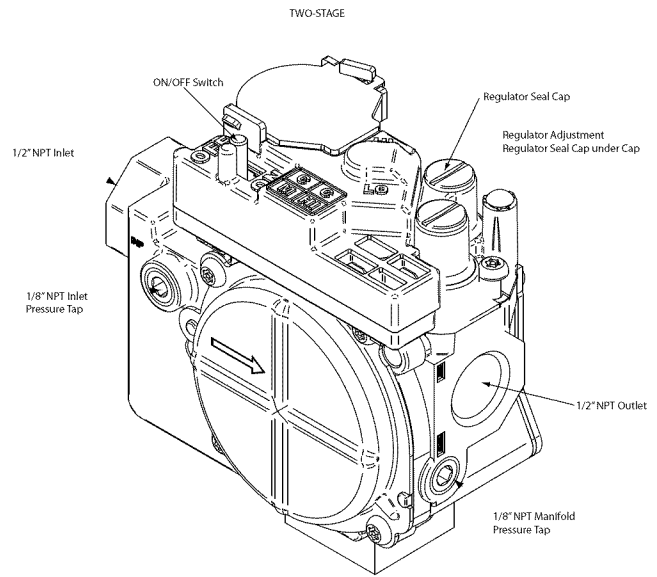

Fig. 51 - Gas Valve
- b. Remove regulator adjustment cap from high-heat gas valve pressure regulator (See Fig. 51) and turn high heat adjusting screw (3/16-in. or smaller flat-tipped screwdriver) counterclockwise (out) to decrease input rate or clockwise (in) to increase input rate.